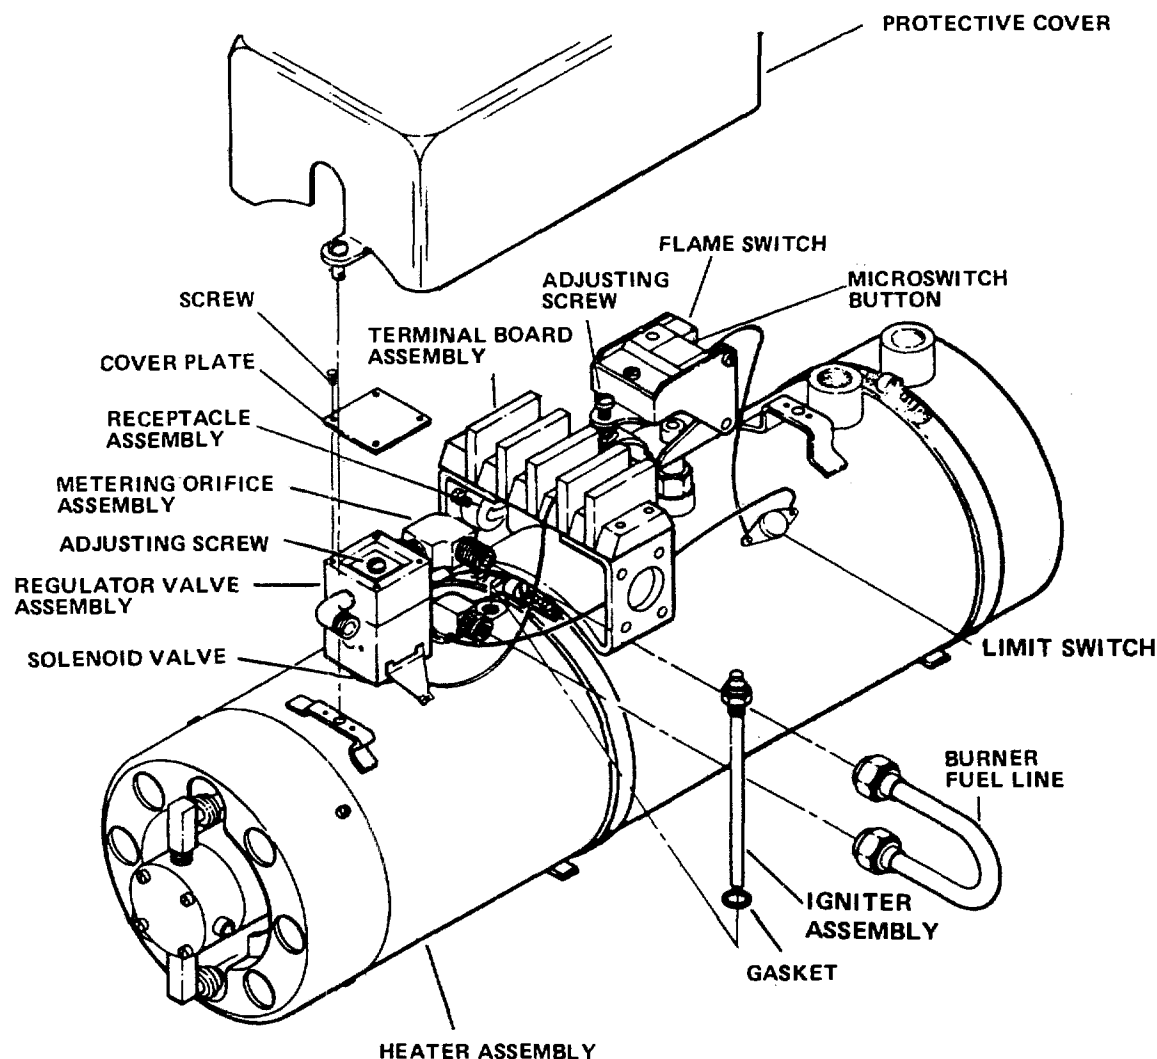

Figure 5-3. Fuel Burning Winterization Kit Heater Assembly, Maintenance
5-9. REGULATOR VALVE ASSEMBLY. Adjust the regulator valve assembly (see figure 5-3) as follows:
h. If flow is not within specified limits, rotate adjusting screw (figure 5-3) to obtain proper flow rate.
- j. Install burner fuel line (figure 5-3).
5-10. TERMINAL BOARD. Inspect the terminal board (see figure 5-3) for cracks, carbon deposits on terminals, loose connections, or other obvious damage.
5-11. LIMIT SWITCH. The following paragraphs provide inspection and test procedures for the limit switch (see figure 5-3).
- (1) Remove protective cover (figure 5-3) by loosening two captive screws.
- (2) Tag and disconnect electrical leads to switch.
- (3) Using a multimeter, check switch for continuity.
- (4) Reconnect electrical leads to switch.
- (5) Install protective cover by tightening two captive screws.
5-12. RECEPTACLE ASSEMBLY. The following paragraphs provide inspection, test, and replacement procedures for the receptacle assembly (figure 5-3).
5-14. FLAME SWITCH. The following paragraphs provide test and adjustment procedures for the flame switch (see figure 5-3).
(1) Remove protective cover (see figure 5-3) by loosening two captive screws.
(2) Rotate flame switch adjusting screw counterclockwise until heater motor starts.
(3) Rotate adjusting screw clockwise until motor stops.
(4) Give adjusting screw an additional 1/2 (180 degree) turn.
(5) Reinstall protective cover by tightening two captive screws.